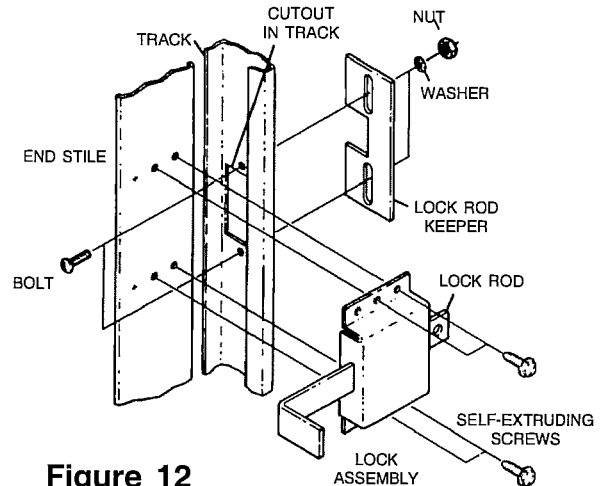

Figure 12
1. Center lock rod in track cutout. See Figure 12.